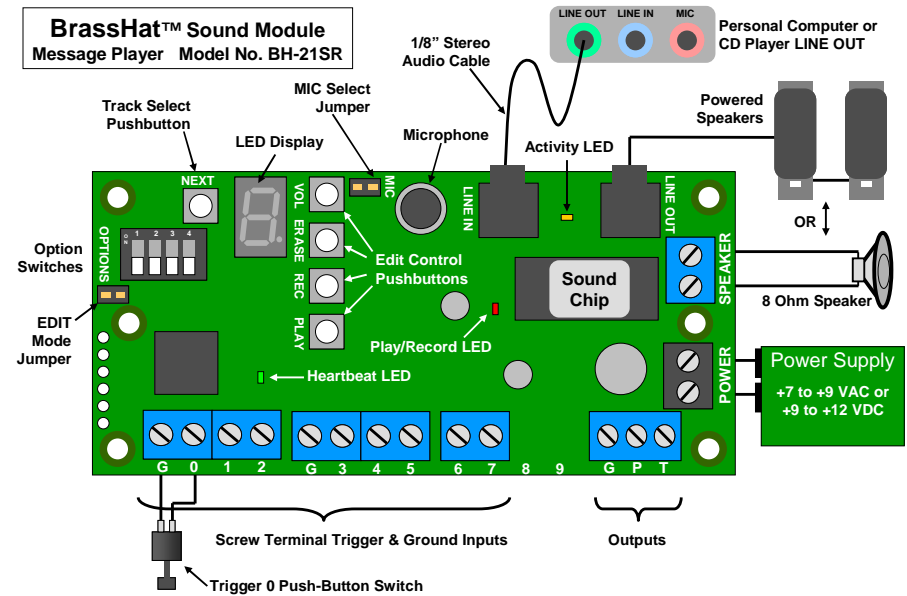

Figure 1: Circuit Board & Wiring Diagram
Figure 1 shows how to wire your **BrassHat™ Sound Recorder**, along with key features on the circuit board.
1. Connect two wires from your power supply to the Sound Recorder **gray** power terminals as shown in **Figure 1**. Polarity does not matter. The power supply must be 7 to 9 Volts AC or 9 to 12 Volts DC, with 150 mA capacity. Radio Shack sells an AC adapter (#273-314) that works well.
3. You can wire switches or other electronics to trigger the Sound Recorder. Grounding and releasing a Trigger Input begins playback of the selected Track. **Figure 1** shows a normally open (NO) pushbutton switch wired to trigger Track 0. See **Section 4**.
4. If you want to record from a personal computer, CD player or other audio source, you can connect that source's LINE OUT to the Sound Recorder's LINE IN jack as shown in **Figure 1**. Male-to-male 1/8-inch stereo audio cables are available from Radio Shack (#42-890) and other retailers.
5. Sound Recorder Output T is grounded when a Trigger Input is detected. Output P is grounded during playback. You can connect Outputs to other electronics as in **Figure 1**. For more information, visit www.bouldercreekengineering.com/manuals.php.
Remove the EDIT Mode Jumper to enter Edit Mode. See **Figure 1**. To avoid misplacing the jumper, reconnect it over just one of the gold pins.
For recording from the built-in Microphone, remove the MIC Select Jumper. See **Figure 1**. Reconnect it over just one of the gold pins for safe keeping.
To record from electronic sound sources (such as a PC, CD player or tape deck) through the Sound Recorder’s LINE IN jack, connect the two gold MIC pins with the MIC Select Jumper. See **Figure 1**.
To enter Run Mode, connect the two gold pins with the EDIT Mode Jumper. See **Figure 1**.
Setting Option Switches on or off (see **Figure 1**) will change Run Mode Options as defined below.